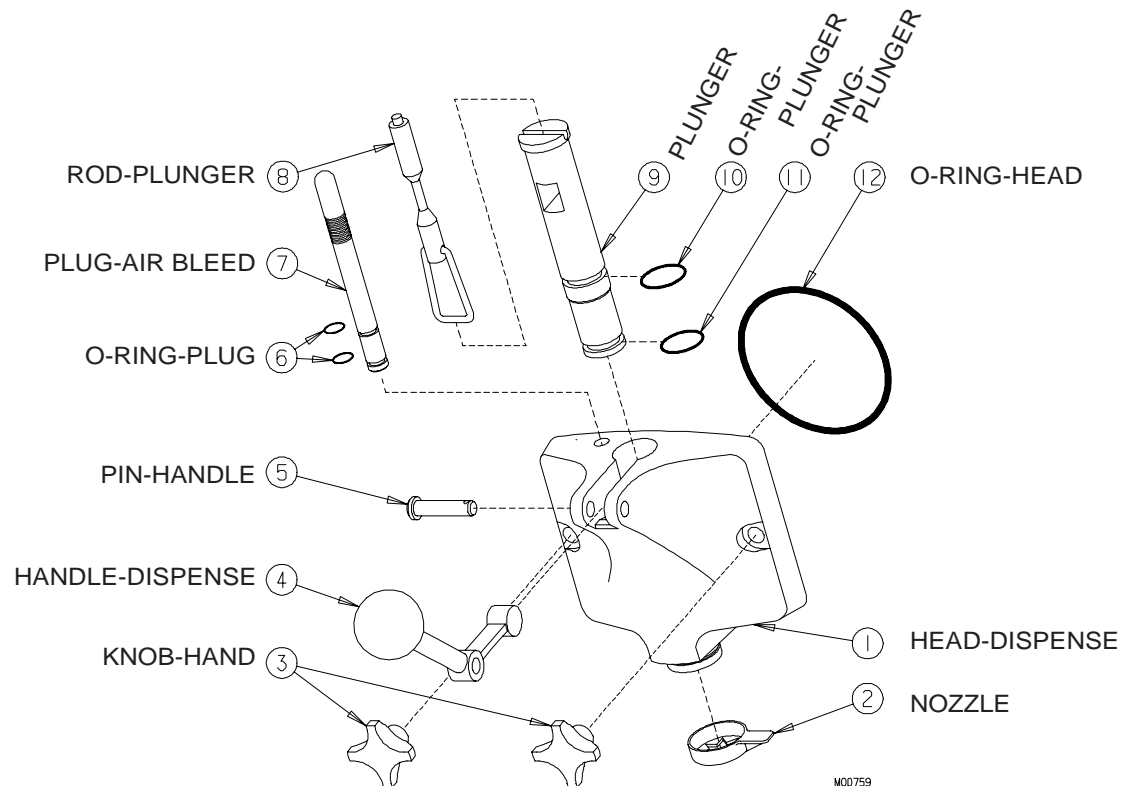

Figure 6-2 30RMT Head Assembly
2. Remove the plunger rod (8, figure 6-2) by lifting up and swinging the bottom out and down. Remove hand knobs (3) and pull the dispensing head (1) straight out.
6. Remove the air bleed plug (7) and remove the two O-rings (6).